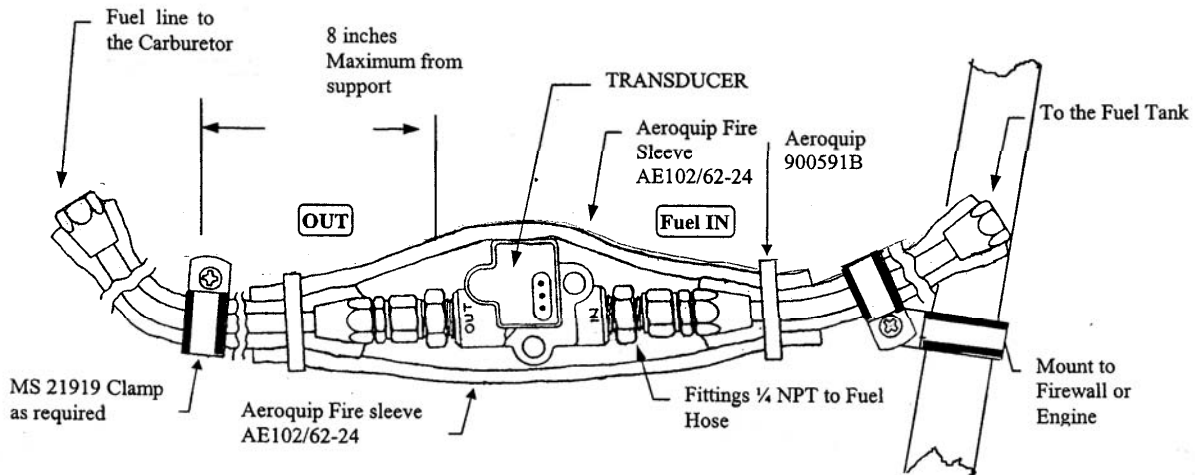

Figure 1. Suspended mounting of transducer
3.5 **Suspended Mounting.** See figure 1 below